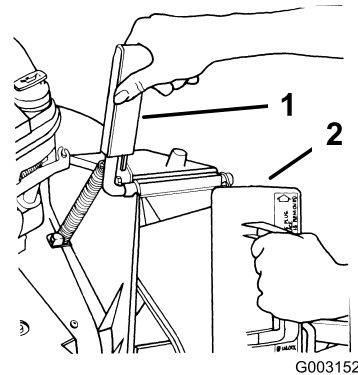

Figure 5
1. Open the discharge door by pulling forward on the handle and moving it rearward (Figure 5). Hold the discharge door handle to prevent the spring-loaded door from closing while you insert the plug.
2. Since the plug is slightly wider than the discharge tunnel opening, rotate the plug clockwise slightly while inserting it (Figure 5).